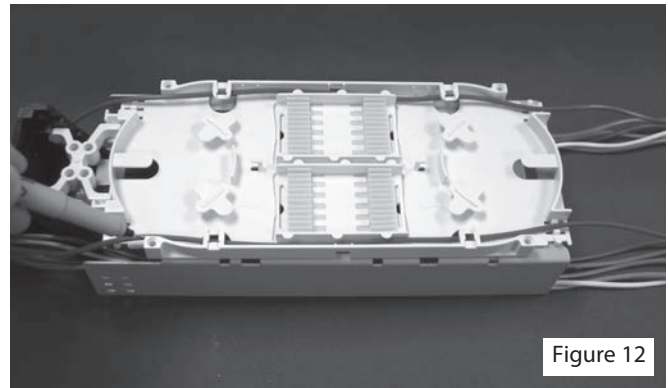

Figure 12
1. Route the selected uncut LBT to the tray as shown and mark the buffer tube 1" from the back of the tray at each side. (See Figures 12 and 13)